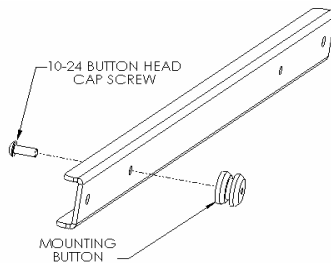

Figure 2
1. Using a 10-24 button head cap screw inserted from back side of bracket, secure mounting button, with chamfered hole of mounting button (larger surface) facing bracket, to top and bottom brackets (four places) (see Figure 2 & Figure 3).